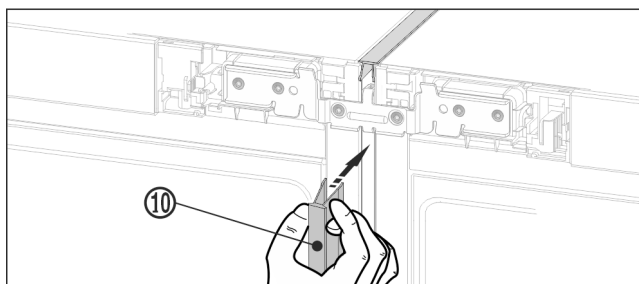

Fig. 21
- On the front, press the long cover strip Fig. 21 (10) into the vertical gap. Ensure that the strip rests on the connecting plate.